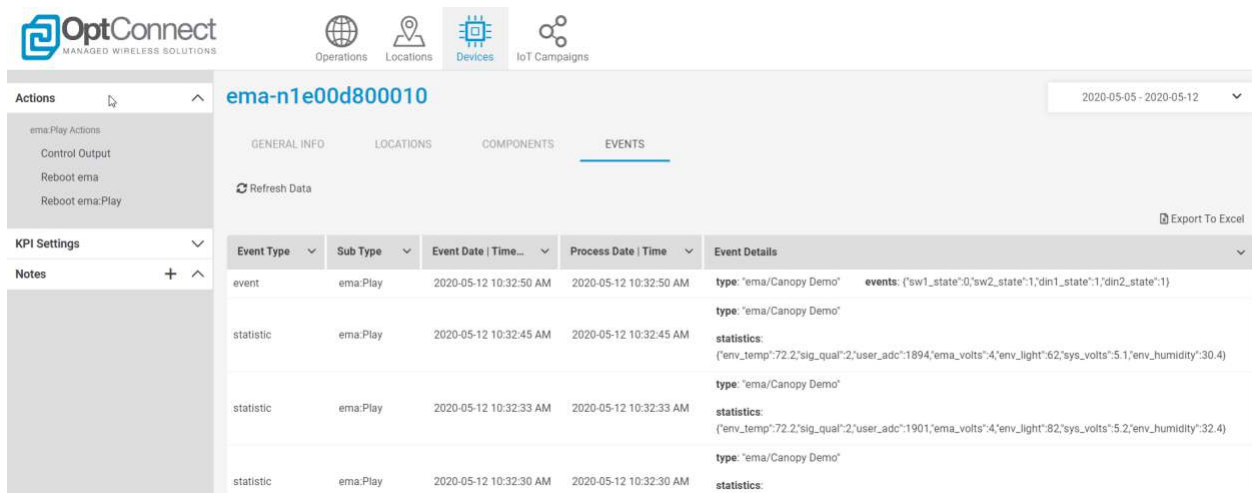

Figure 42
1. From the "Devices" tab, expand the "Actions" section which is located towards the upper left of the page as shown in *Figure 42*.